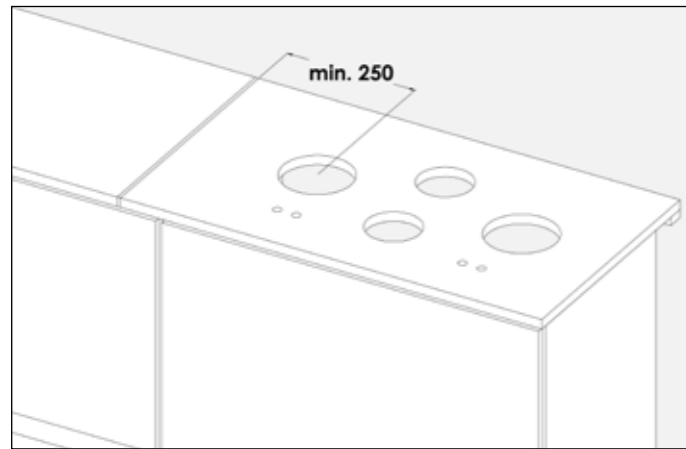

Fig. A4
- Glued connections and/or coupling joints may never intersect the cutout(s). Joints must be a minimum distance of 250 mm from any cutout(s) (fig. A4 and fig. A5).